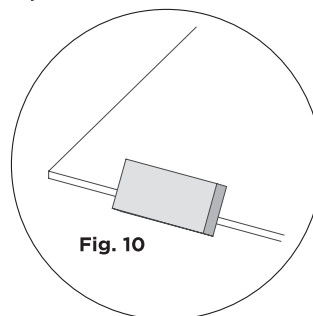

Fig. 10
- 4.8 Sand the edges lightly with sandpaper and sanding block to smooth out. **(Fig. 10)**